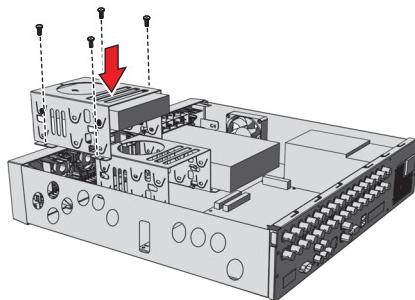

Figure 9. Replacing the Mounting Basket
1. Reinstall the HDD mounting basket (refer to Figure 9):